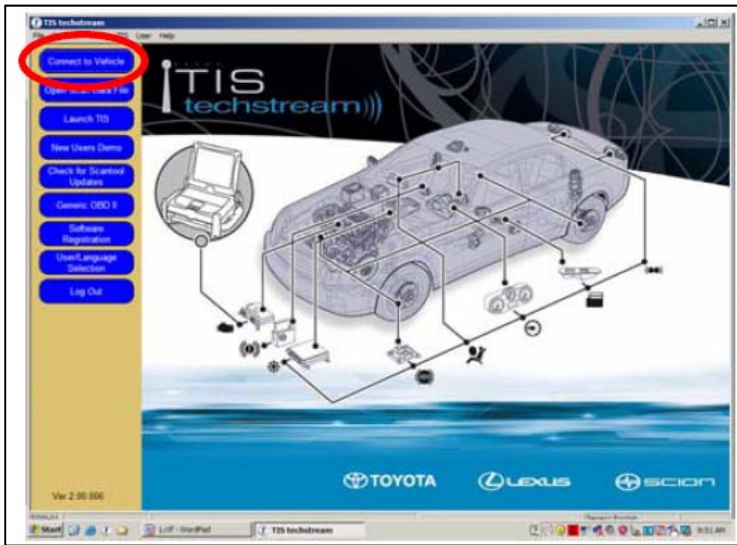

Figure 14a
- d. Click “Connect to Vehicle” button. See Figure 14a.